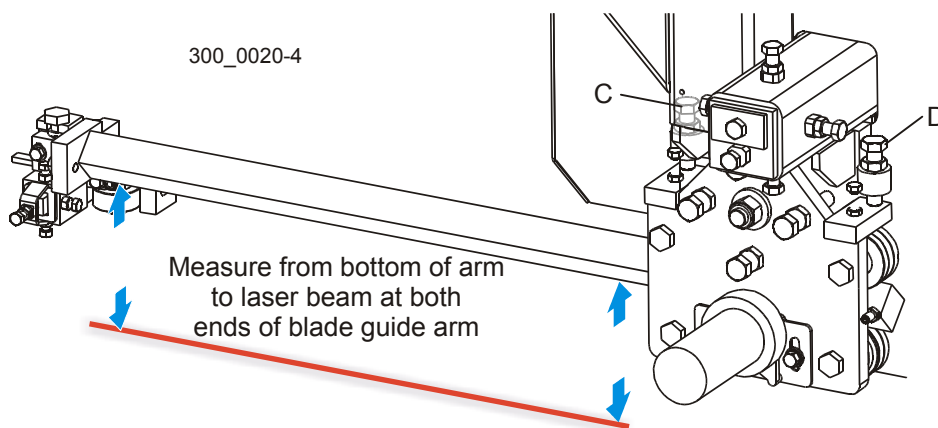

FIG. 3-22
See **Figure 3-22**. Adjust the blade guide arm all the way in. Measure from the bottom of the arm to the laser beam at both ends of the arm. The two measurements at each end of the arm should be the same within 1/32". To adjust the vertical tilt of the arm, adjust the bolts (C & D) on the blade guide arm mounting plate. Loosen the jam nuts. Adjust bolt (C) up and bolt (D) down to tilt the arm up. Adjust bolt (D) up and bolt (C) in to move the arm toward the blade. Recheck the distance from the arm to the laser beam at both ends of the arm. Readjust if necessary. Tighten the jam nuts.